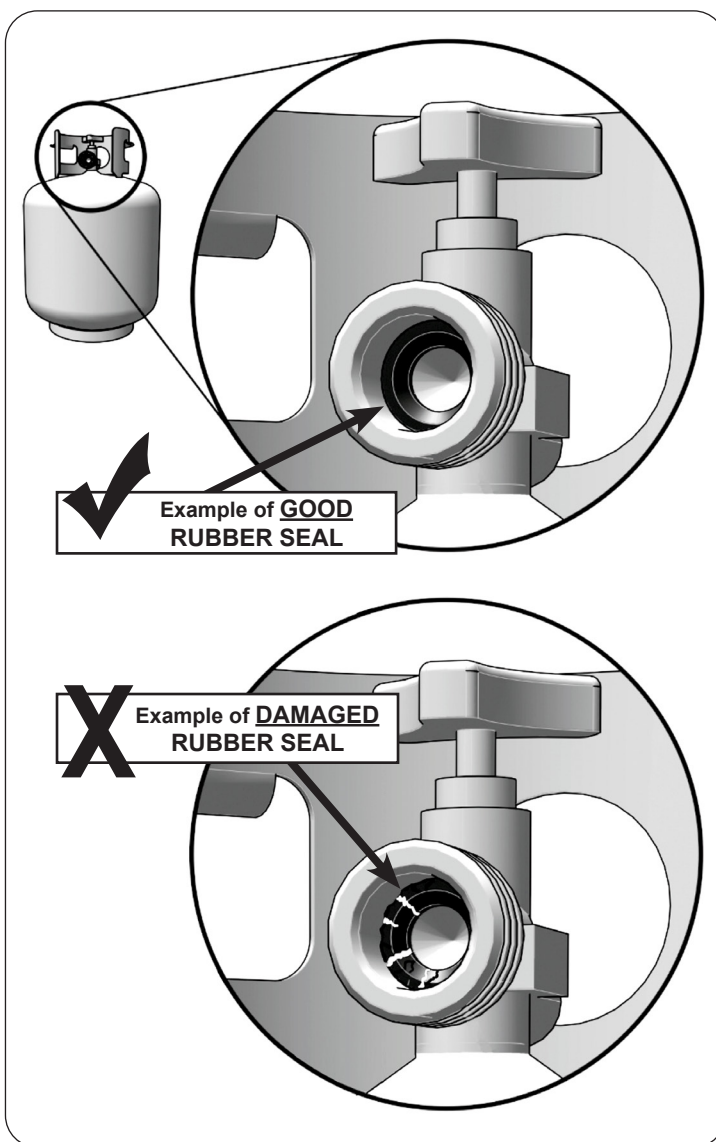

Fig. 11-1 Inspect rubber seal
- D.** **CGA 791 connections on LP gas cylinders:** The cylinder face elastomeric face seal element on these devices could, over time, show marked and visible damage or deterioration that might cause a leak even with the connection tightened. A visual inspection for the seal must be carried out every time a LP gas cylinder is replaced or refilled. Any LP gas cylinder showing signs of damage or deterioration as illustrated in Fig. 11-1, including visible cracks and pitting, must be replaced.